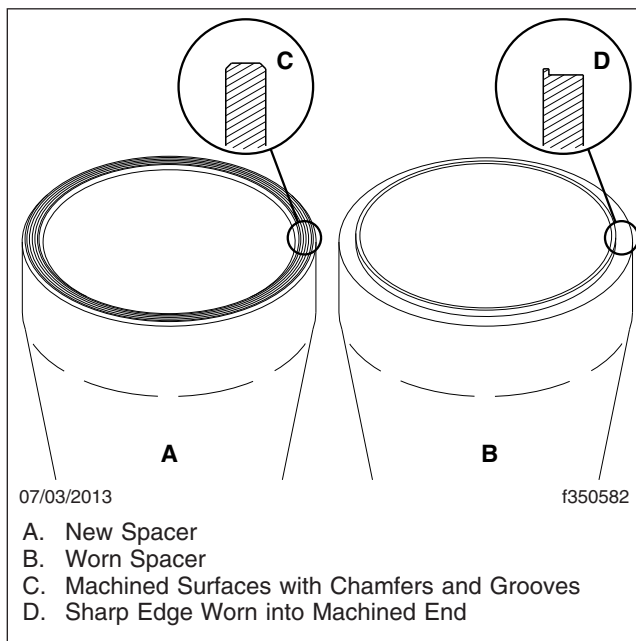

Fig. 10, Comparison of New and Worn Bearing Spacers
2. Inspect the bearing spacer for signs of wear or damage. Look for a sharp ring of standing metal that has been worn into the spacer at either end; see Fig. 10. If the spacer is worn or damaged, replace it.